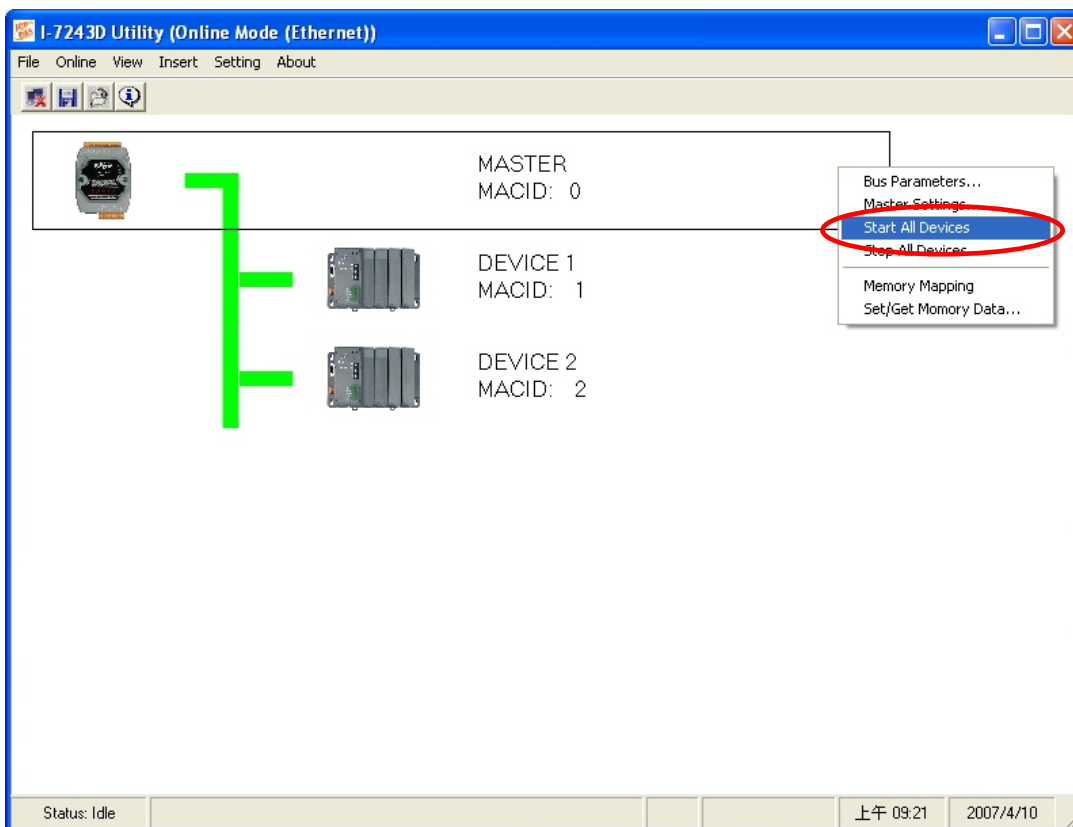

Figure 5-25: Start/stop communicating with all DeviceNet devices
- By Clicking left of the mouse button on master frame, I-7243D, you can start or stop communicating with all DeviceNet devices. Select the “Setting” item on the menu bar, or click right of the mouse button on the master frame, then click the “Start All Devices” item or “Stop All Device”. Then the I-7243D will start/stop communicating with all DeviceNet devices. As shown in figure 5-25.